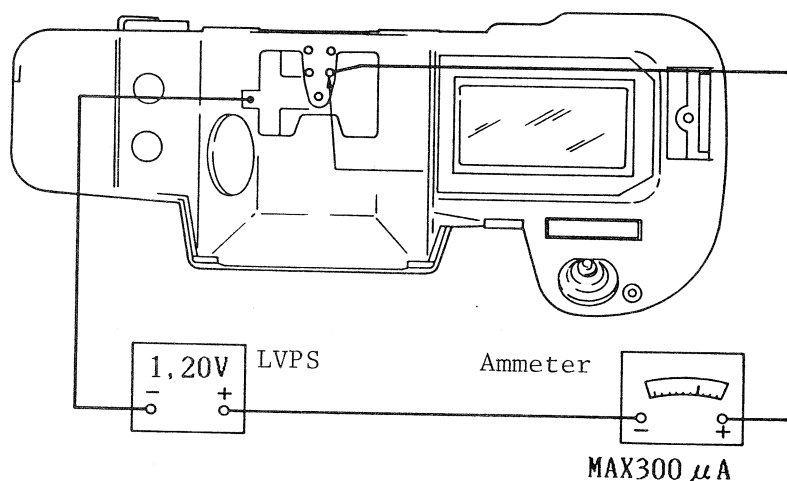

Fig. 17
- A. Attach the flash to an EOS top cover wired to a LVPS and analog ammeter, as shown in figure 17.